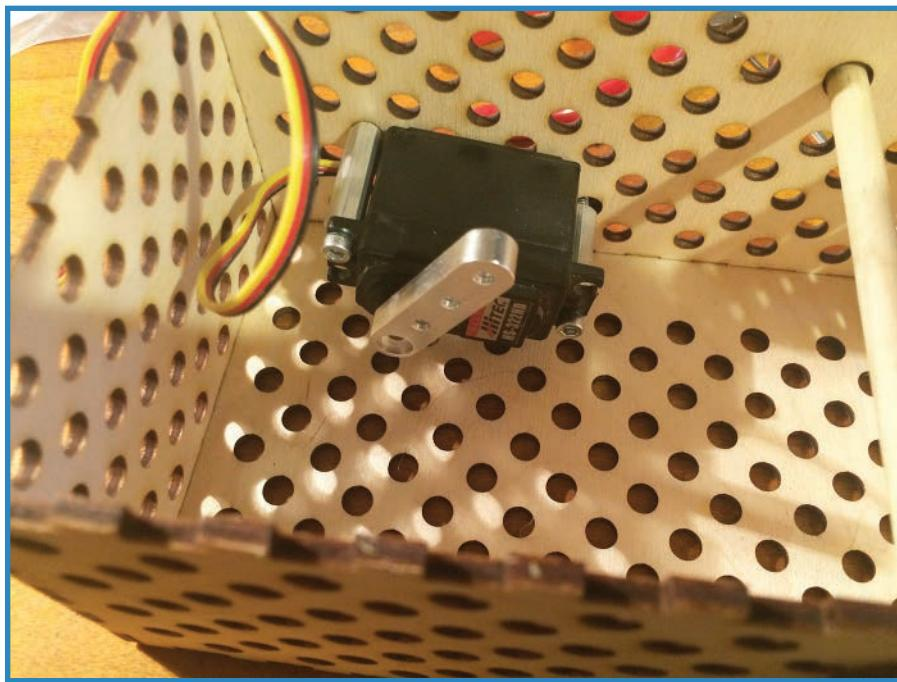

FIGURE 7.10 Install the servo and servo arm.
5. While the motor mounts are drying, install the servo using the #6 standoffs and hardware. At the same time, install the servo arm using the set screw that came with the servo. Figure 7.10 shows how it should look.